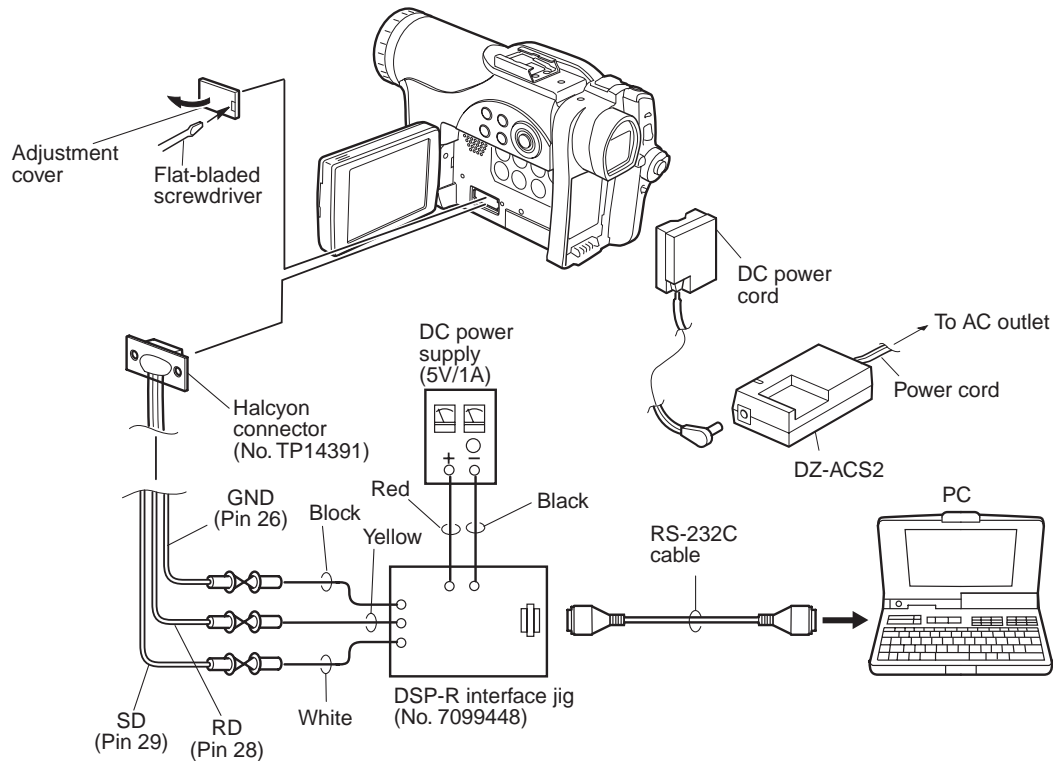

Fig. 4-9-2 Connections when creating backup file of EEPROM data and writing
- 2) Connect the DVD video camera/recorder, jig/tool and power supply as shown in Fig. 4-9-2. Refer to “6-1-1 List of Jigs and Tools used when Creating Reference Data” for details on jig/tool and power supply in the figure.